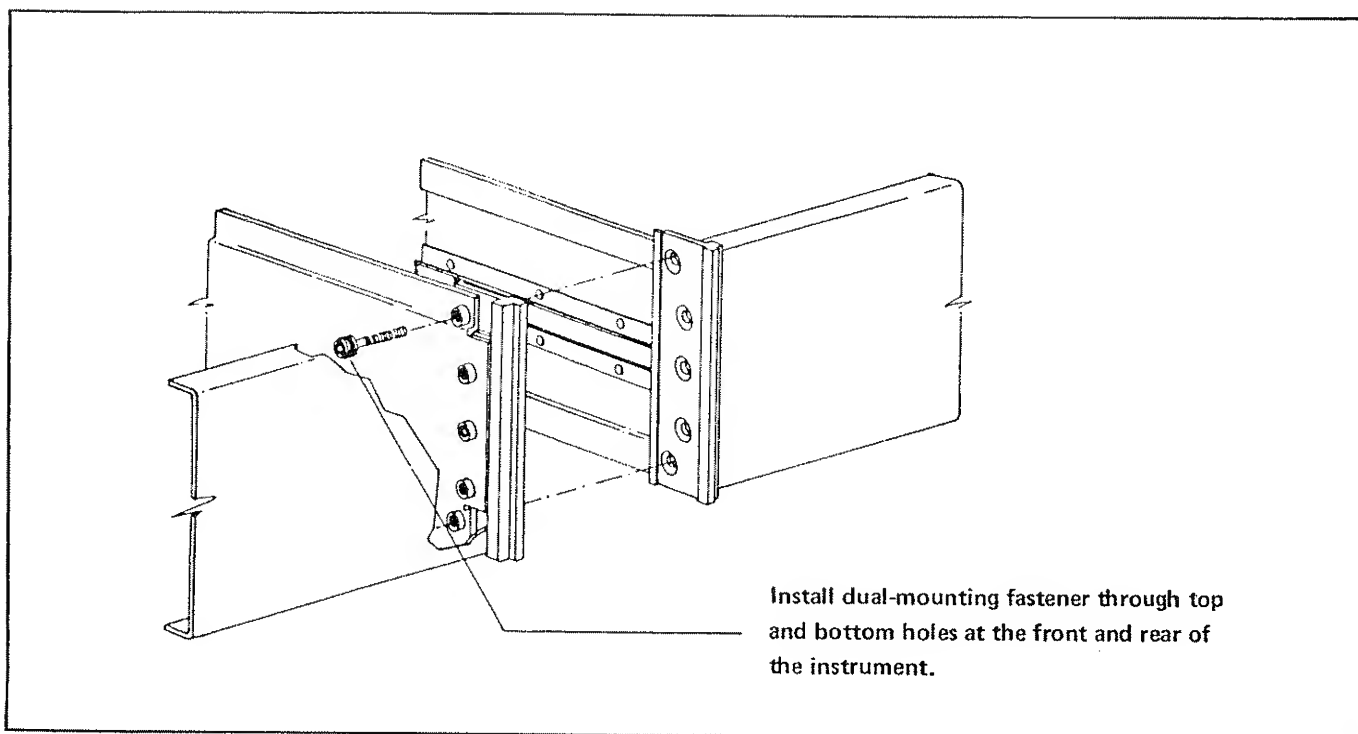

Figure 6-3. DUAL, TRIPLE, AND QUAD MOUNTING
- j. Insert the dual-rack-mounting fasteners through the front and rear corner nut locations which were vacated in step h. See Figure 6-3.